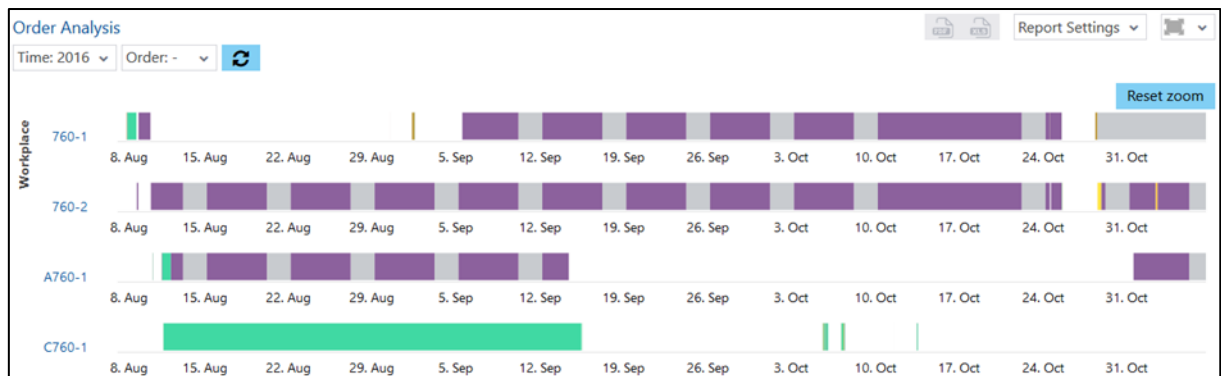

Fig. 143: Order analysis as timeline
- Order analysis as timelines (fig. 143):